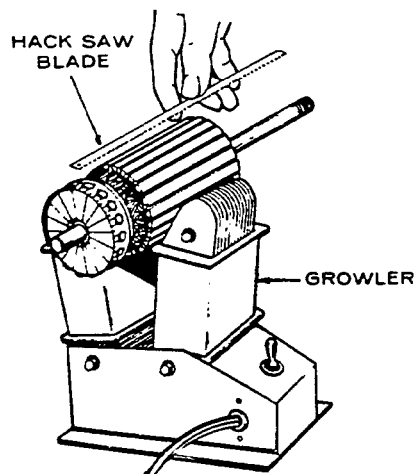

FIGURE 3. TESTING ARMATURE FOR SHORT CIRCUITS
**Testing Armature for a Short Circuit:** Use a growler for locating shorts in the armature. Place armature in growler and hold a thin steel blade (e.g. hacksaw blade) parallel to the core and just above it while slowly rotating armature in growler. A shorted armature will cause the blade to vibrate and be attracted to the core. If armature is shorted, replace with a new one (Figure 3).